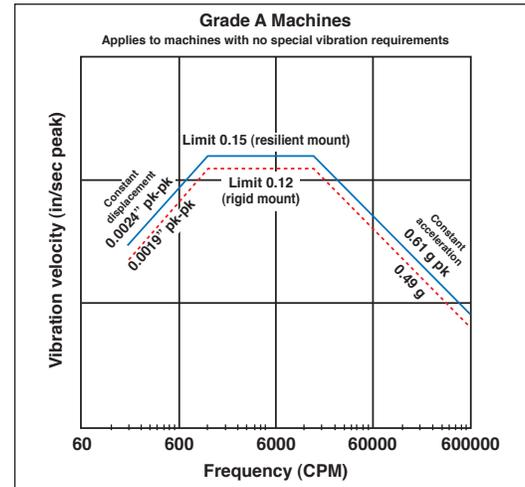

Figure 9. NEMA unfiltered vibration graph.
- **Vibration analysis.** The most common mechanical test for PM and PdM is vibration analysis using an FFT spectrum analyzer. FFT converts vibration data into vibration spectra (waveforms of amplitude versus frequency) over a wide frequency range (Figure 9). For horizontal motors, the readings are usually taken radially in the horizontal and vertical planes of both bearings, and axially at a minimum of one bearing housing. NEMA standards for vibration limits apply only to uncoupled motors—i.e., not to installed motors. Values in independently written technical papers and test equipment manufacturers' manuals offer some guidance.